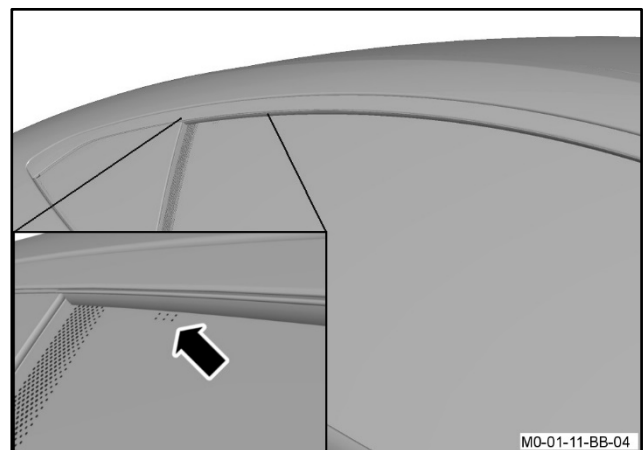
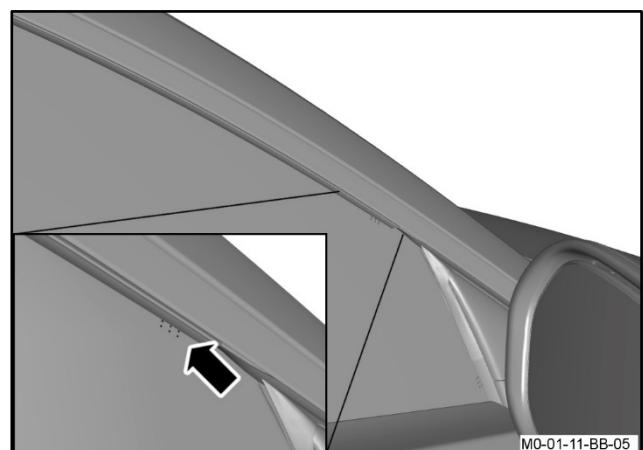

Figure 22
Figure 23
37. Do a check of the alignment marks on the front and rear of the door glass (refer to Figure 22 and Figure 23).